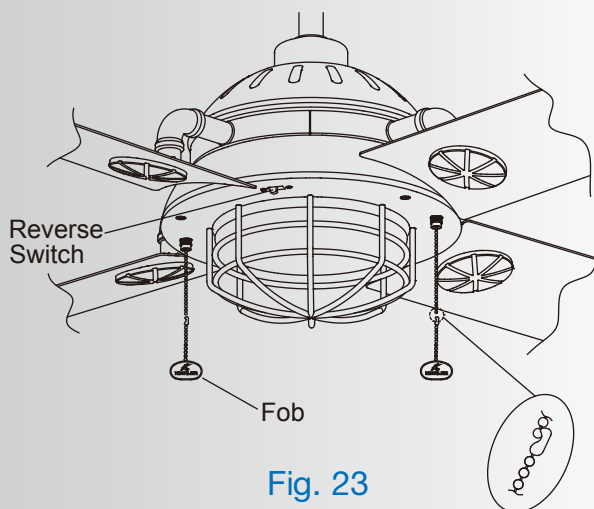

Fig. 23
Step 1. Attach the decorative pull chain fobs to the chains coming out of the light case. Refer to Fig. 23.